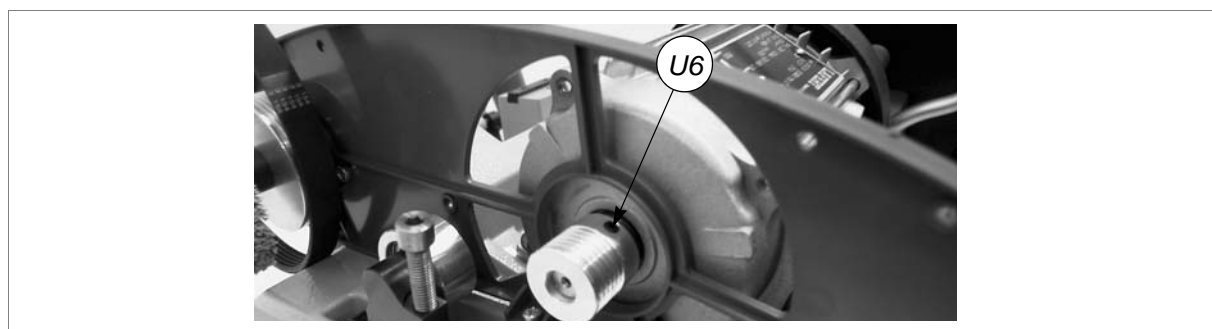

Fig. 42
- 10) Loosen the 4 fixing screws on the motor (fig.42) and remove, paying attention to the wire.
- 11) Loosen the grub screw (U6) on the motor pulley (fig.42). Remove the pulley and fit to the new motor. Secure by tightening the grub screw (U6).